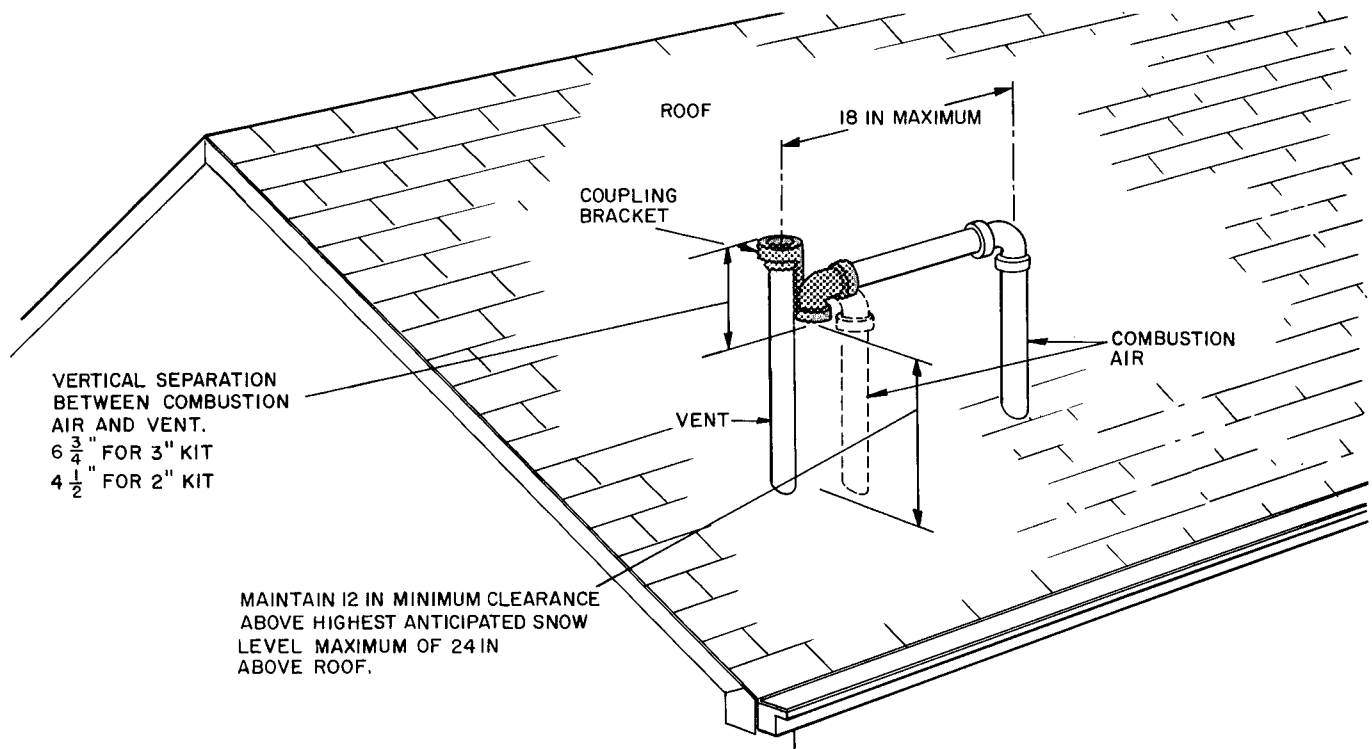

Fig. 3 — Rooftop Vent Terminal Installation
Combustion-Air and Vent Piping — The schedule-40 PVC pipe and fittings must conform to American National Standards Institute (ANSI) standards and American Society for Testing and Materials (ASTM) standards D1785, D2661, or D2665. PVC pipe cement and primer must conform to ASTM D2235 or D2564. See Table 3 for pipe sizing and Fig. 3, 4 and 5 for exterior piping arrangements
All combustion-air and vent pipes must be airtight and watertight. Pipes must terminate exactly as shown in Fig. 3 through 5
Vent Terminal Kit Installation — The combustion-air and vent pipes must terminate outside the structure. The Carrier accessory vent termination kit for 2-in. diameter pipe (required) must be installed as shown in Fig. 3, 4 or 5. Roof termination, shown in Fig. 3, is preferred. The kit contains extra parts for the various applications.
NOTE: The shaded portions of Fig. 3, 4 and 5 are considered part of the vent terminal and are provided in the vent terminal kit. They should not be counted, therefore, in pipe diameter calculations.
ROOFTOP VENT TERMINAL INSTALLATION (Fig. 3)
NOTE: The solid-line arrangement in Fig. 3 is the preferred arrangement; the dashed-line arrangement is an option for the combustion-air pipe.
3. Loosely install pipe coupling, provided in kit, on properly cut vent pipe. Position coupling so that bracket will mount as shown in Fig. 3.
5. Install bracket as shown in Fig. 3.
6. For applications using combustion-air pipe option (indicated by dashed lines in Fig. 3), install 180° U-fitting on end of pipe instead of 90° elbow.